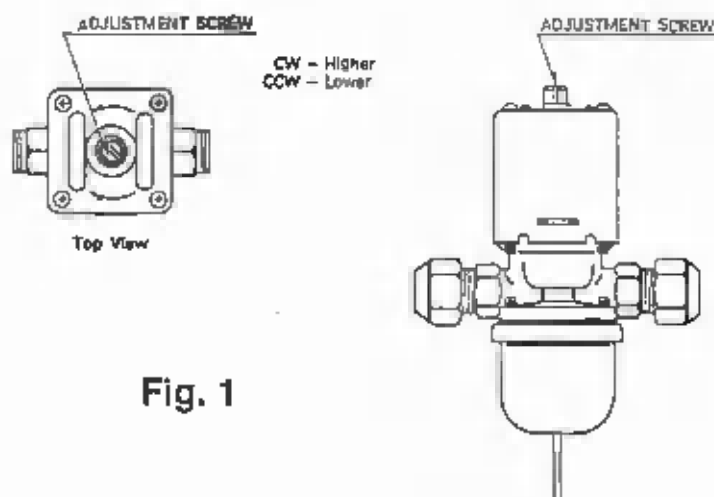

Fig. 1
- 2) Rotate the adjustment screw by using a flat blade screwdriver, so that the pressure gauge shows the temperature specified in the table, 5 minutes after a freeze cycle or icemaking process starts. When the pressure exceeds 235 PSIG, or the condenser drain temperature exceeds the temperature range, rotate the adjustment screw counterclockwise. See Fig. 1.